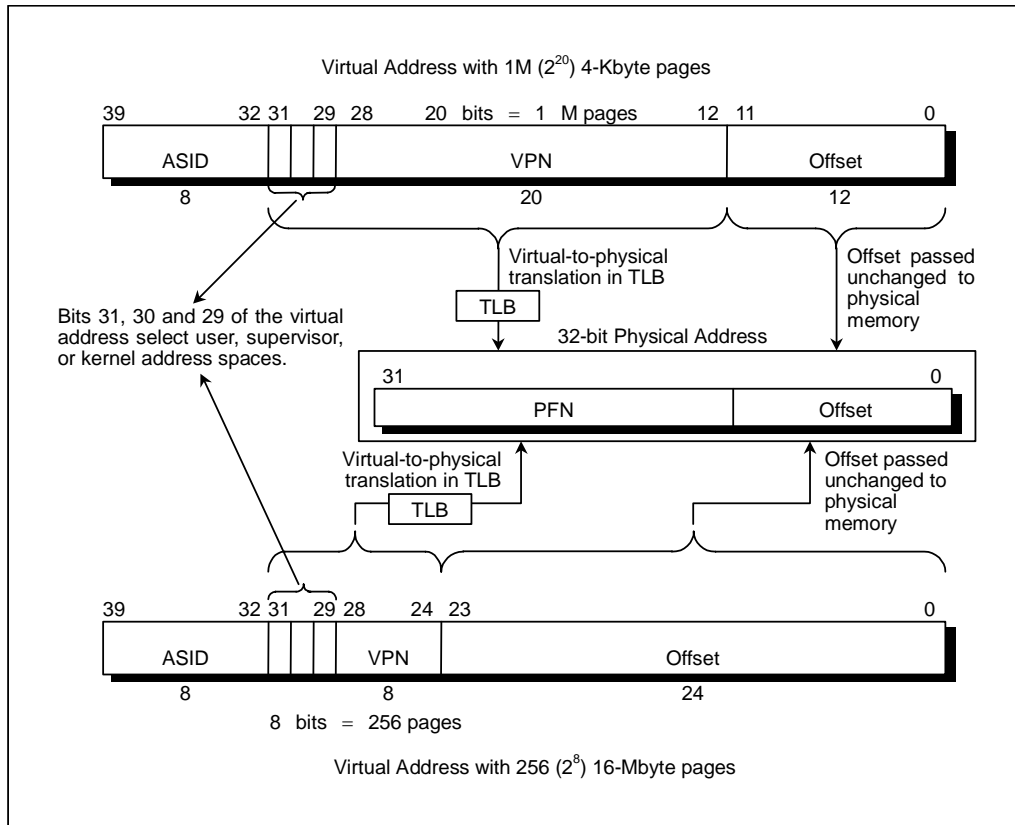
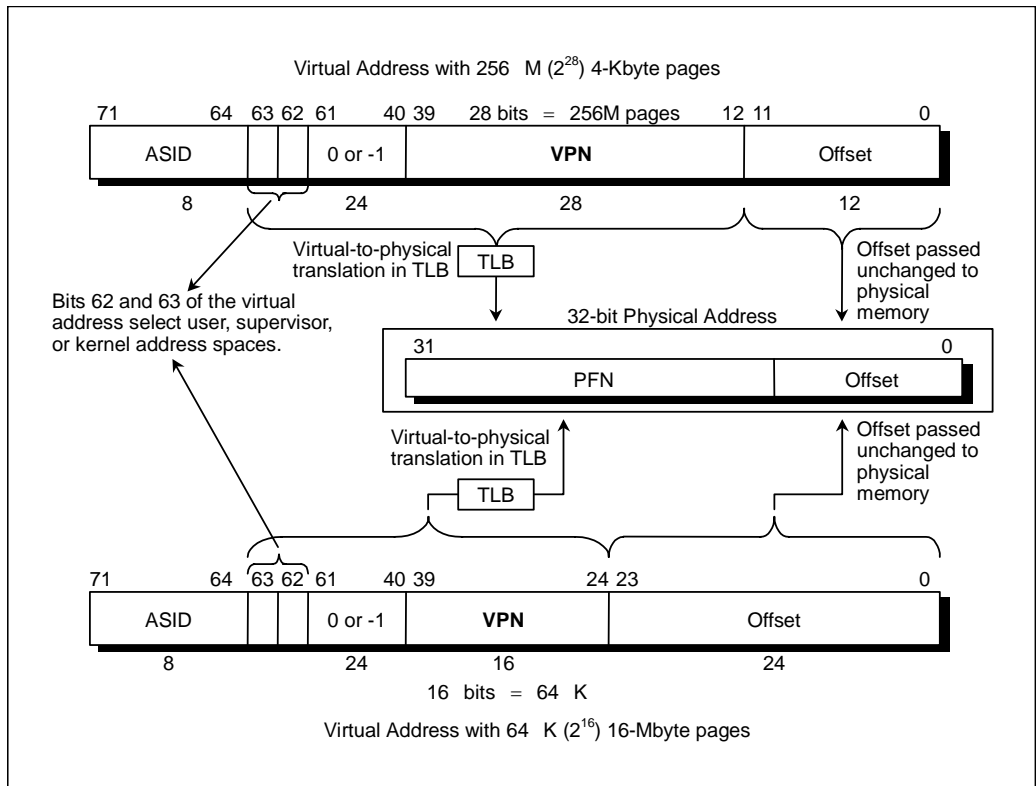

Figure 4.1.2 32-bit Mode Virtual Address Translation
Figure 4.1.3 64-bit Mode Virtual Address Translation
As shown in Figure 4.1.2 and Figure 4.1.3, the virtual address is extended with an 8-bit address space identifier (ASID), which reduces the frequency of TLB flushing when switching contexts. This 8-bit ASID is in the CP0 *EntryHi* register, described later in this chapter. The *Global* bit (G) is in the *EntryLo0* and *EntryLo1* registers, described later in this chapter.
Figure 4.1.2 shows the virtual-to-physical-address translation of a 32-bit mode address. This figure illustrates two of the possible page sizes: a 4-Kbyte page (12 bits) and a 16-Mbyte page (24 bits).
- The top portion of Figure 4.1.2 shows a virtual address with a 12-bit, or 4-Kbyte, page size, labeled *Offset*. The remaining 20 bits of the address represent the VPN, and Index the 1M-entry page table.
- The bottom portion of Figure 4.1.2 shows a virtual address with a 24-bit, or 16-Mbyte, page size, labeled *Offset*. The remaining 8 bits of the address represent the VPN, and index the 256-entry page table.
Figure 4.1.3 shows the virtual-to-physical-address translation of a 64-bit mode address. This figure illustrates two of the possible page sizes: a 4-Kbyte page (12 bits) and a 16-Mbyte page (24 bits).
- The top portion of Figure 4.1.3 shows a virtual address with a 12-bit, or 4-Kbyte, page size, labelled *Offset*. The remaining 28 bits of the address represent the VPN, and index the 256M-entry page table.
- The bottom portion of Figure 4.1.3 shows a virtual address with a 24-bit, or 16-Mbyte, page size, labelled *Offset*. The remaining 16 bits of the address represent the VPN, and index the 64K-entry page table.